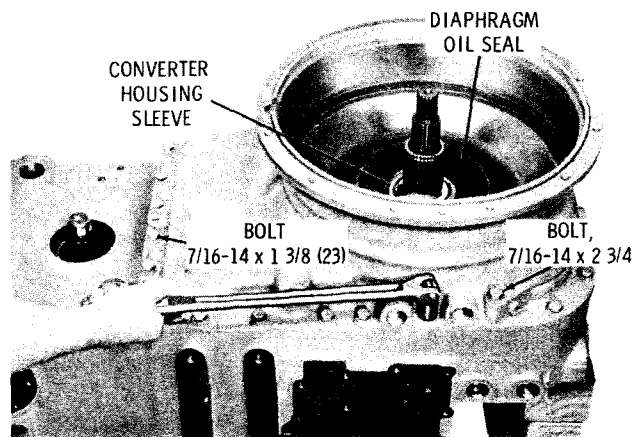

Fig. 7-35. Installing torque converter housing bolts
(2) To attach the converter housing, install one 7/16-14 x 2 3/4-inch bolt, twenty-three 7/16-14 x 1 3/8-inch bolts, twenty-four 7/16-inch flatwashers, and twenty-four 7/16-inch lockwashers (fig. 7-35). Tighten the bolts to 42 to 50 pound feet (57 to 67 Nm) torque.
(1) Check to insure that the step-joint sealring (installed in para 6-8) is firmly seated in the converter housing sleeve, and that the diaphragm oil seal is packed with high-temperature grease (fig. 7-35).